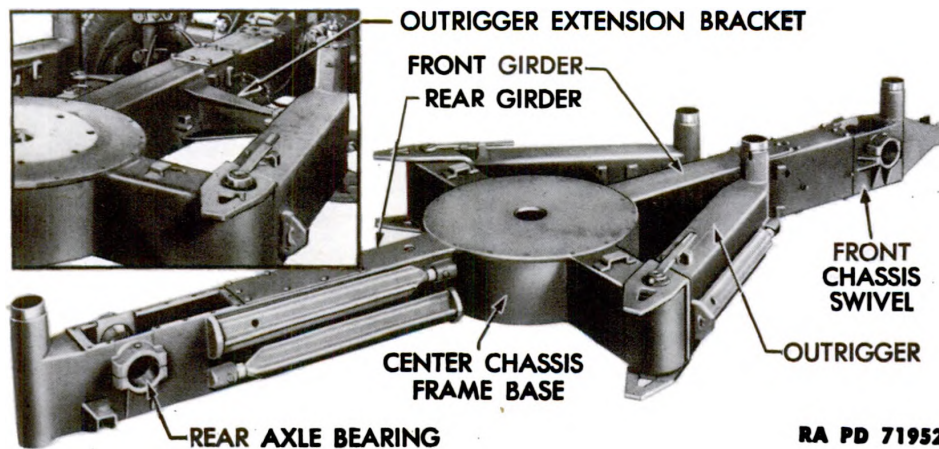

Figure 53 – Chassis Frame With Outriggers Folded
a. The chassis frame (fig. 53) of the carriage is cross-shaped with
c. On carriages of late manufacture, and on those so modified, chassis frame outrigger extension brackets with double outrigger hooks (insert, fig. 53) are welded to both sides of the front chassis frame girder. When the outriggers are folded and engaged by the ends of these brackets, continuous traverse of the top carriage is permitted when the weapon is in traveling position. On unmodified carriages of early manufacture, the outriggers, when folded, are engaged by hooks welded directly to the front chassis frame girder; traverse is restricted in traveling position.